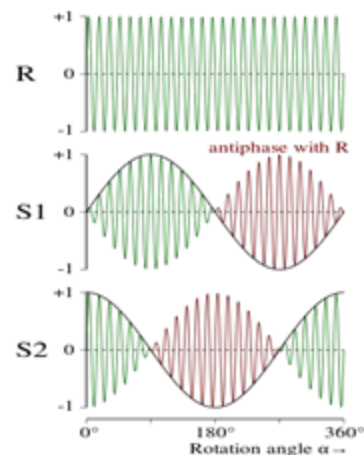

Figure 4: The ratiometric format of the resolver allows it to reject common-mode noise.
We define electrical zero (EZ) as the position of the rotor with respect to the stator during excitation of the primary winding at which there is minimum voltage amplitude across the sine winding and the maximum voltage amplitude across the cosine winding (see figure 4). This ratiometric format provides an inherent noise-reduction feature for any injected noise whose magnitude is approximately equivalent on both windings, and it compensates for thermal swings.